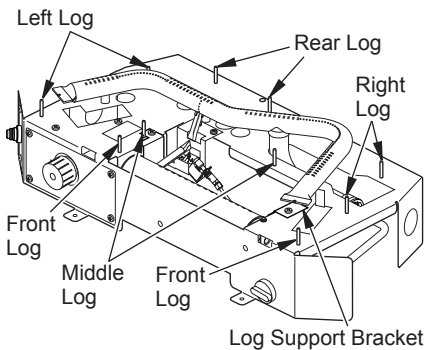

Figure 17 - Log Alignment Screws
1. Place middle log (#1) onto log alignment screw located near the center of base and in place over log support bracket as shown in Figures 17 and 18.
5. Place rear log (#5) onto two alignment screws to the rear of base (see Figures 17 and 19).